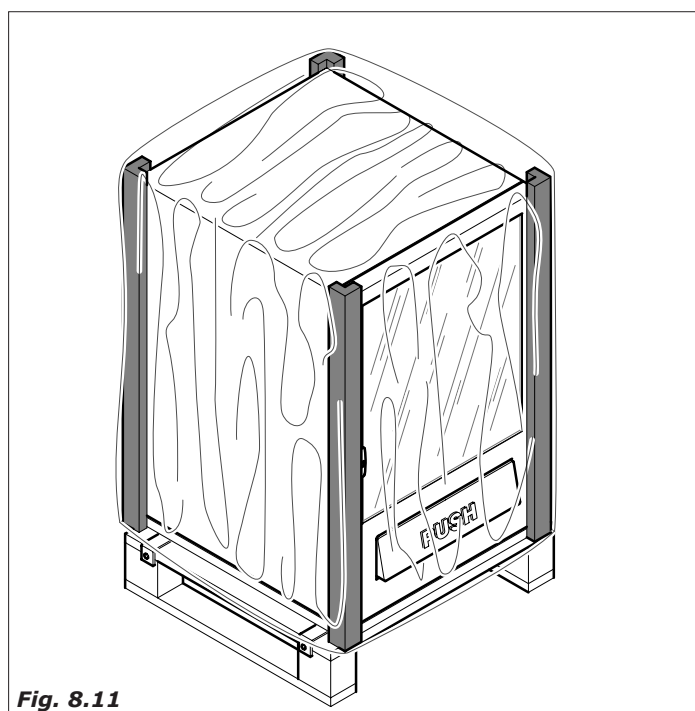

Fig. 8.11
- protect the outside with a cellophane film or sack (Fig.8.11)